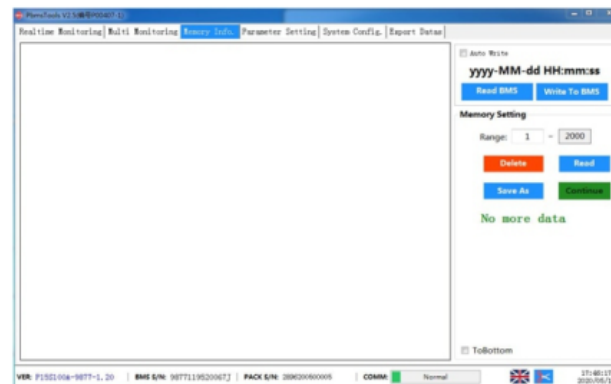

Figure 23:Memory Information
(4) In the Memory Information (As shown figure 23), this page is for reading battery history, including any BMS alarms and battery status information during the protection.